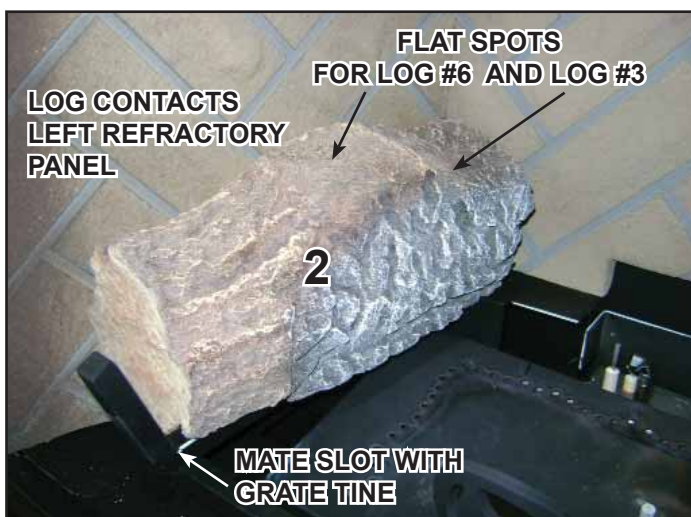
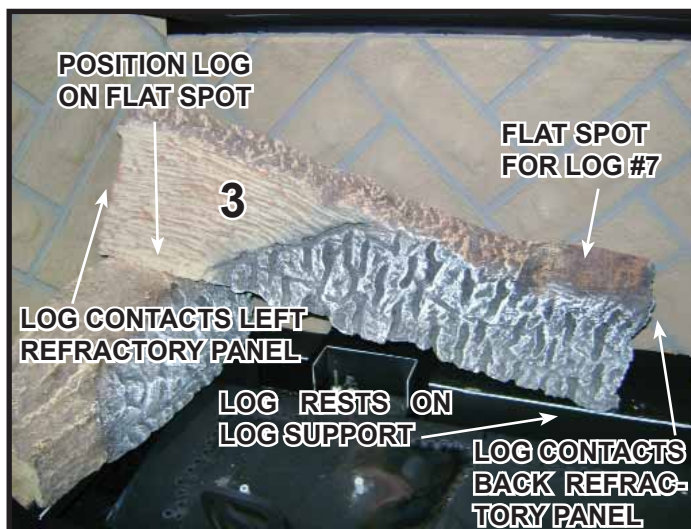
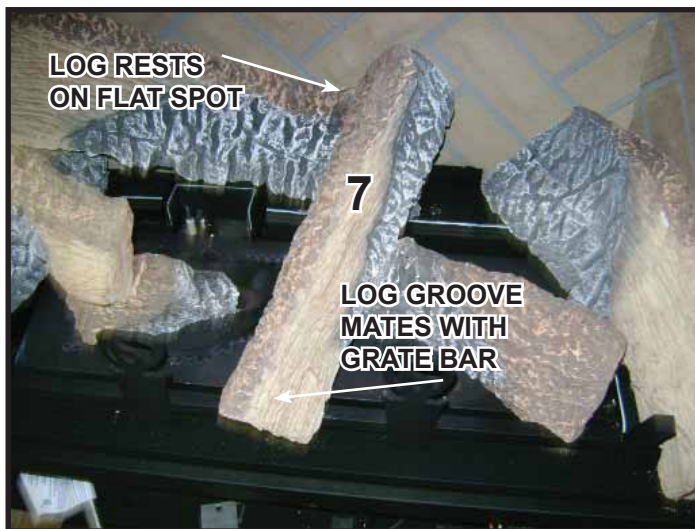

Figure 7. Place Log #2
Figure 9. Place Log #3
Figure 15. Place Log #7
**Log #2 (SRV2225-703):** Mate the grate tine with the slot on the bottom of Log #2. The back end of the log rests on the log support. The side of the log will contact the left refractory as shown in Figure 7.
**Log #3 (SRV2225-702):** Position the left end of the log on the flat spot of Log #2 as shown in Figure 7 and Figure 9. The right end of the log rests on the log support and touches the back refractory. The left end of the log should contact the left refractory panel.
**Log #7 SRV2225-704):** Note the location of the groove on the underside of the log. Place the opposite end on the flat spot on Log #3. See Figure 9. Mate the groove on the underside of the log with the grate bar as shown in Figure 15, centered between the andirons.